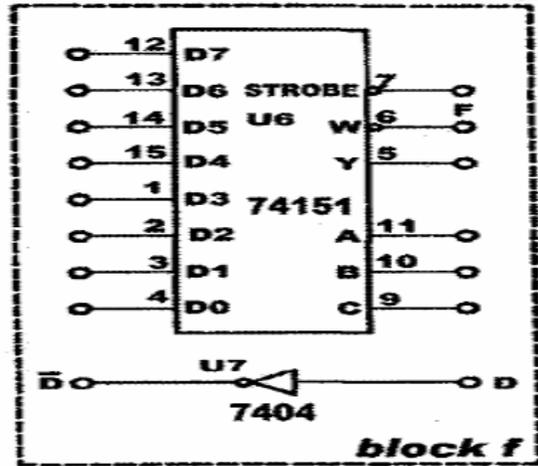

Figure.13: Wiring diagram (KL-26004 block f)
3. Sketch on (Figure.13) the input connections necessary to implement the function
4. Complete the connection by referring to the wiring diagram in Figure.13